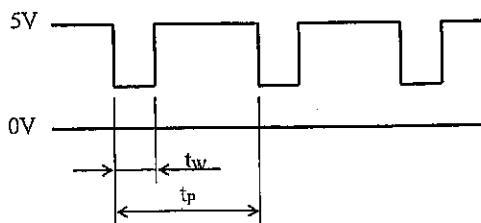
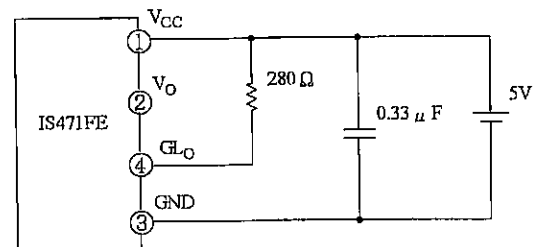

Fig.1
fig.2
*1 The definition of Pulse frequency(t_p) and Pulse width(t_w) are shown in fig. 1.
The wave form of fig. 1 shows the output voltage wave of GL_O terminal of the diagram of fig. 2.
(Note) It shows the GL_O terminal's waveform at fig 2 diagram.